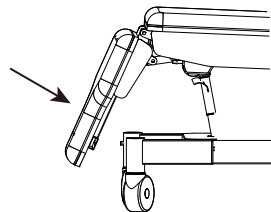

Figure 6
- Press button Line 2 on the handset to adjust the leg section of the table downward (Figure 6). When the required angle is reached,release the button, and the angle of leg section will be locked automatically.